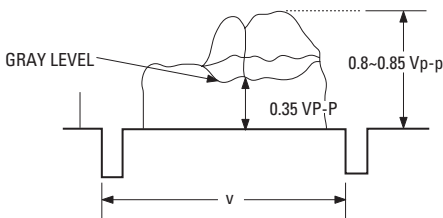

Figure 2. Gray Level Setting
4. While viewing a brightly lit object (Refer to Figure 2):